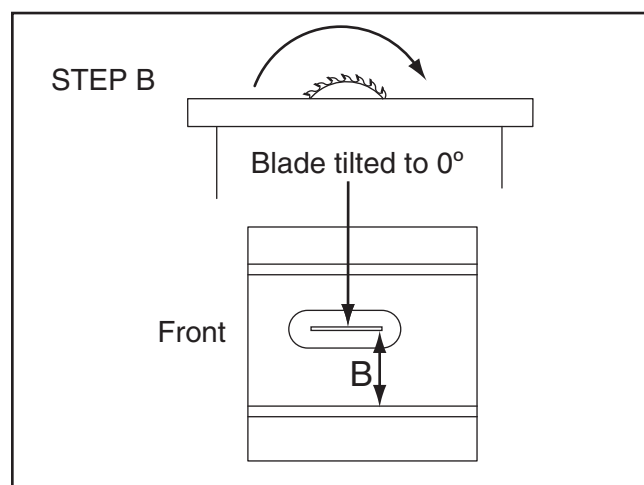

Figure 111. Measuring distance from miter slot to carbide tip on opposite side of table insert.
5. Slide adjustable square down to other end of table insert and compare distance from marked blade tip to end of adjustable square, as shown in **Figure 111**.